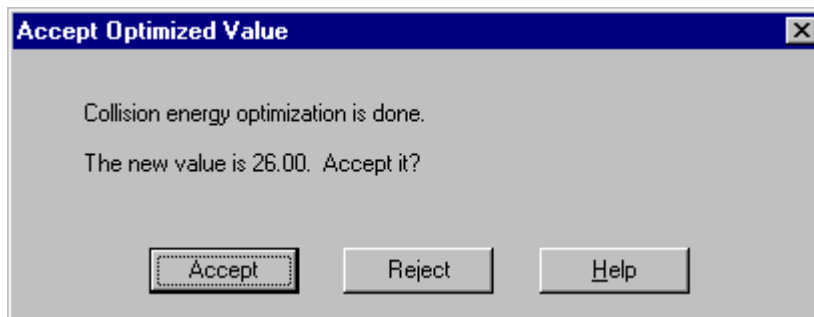

Figure 5-6. Accept Optimized Value dialog box
4. When the collision energy is optimized, the Accept Optimized Value dialog box appears. See Figure 5-6.